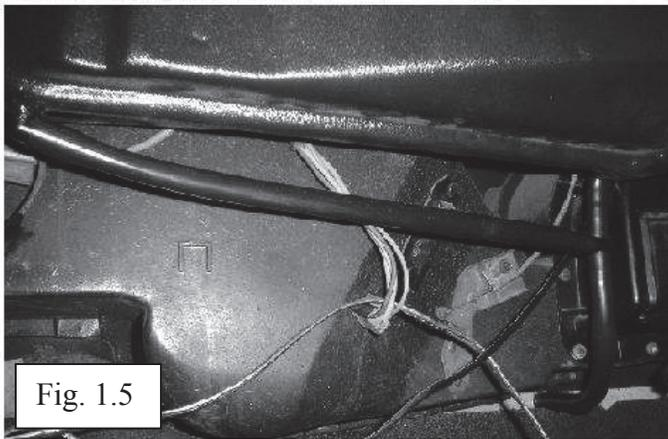

Fig. 1.5
17) We recommend keeping the drain out of site, out of the feet area, and not draining onto the exhaust. Figure 1.5